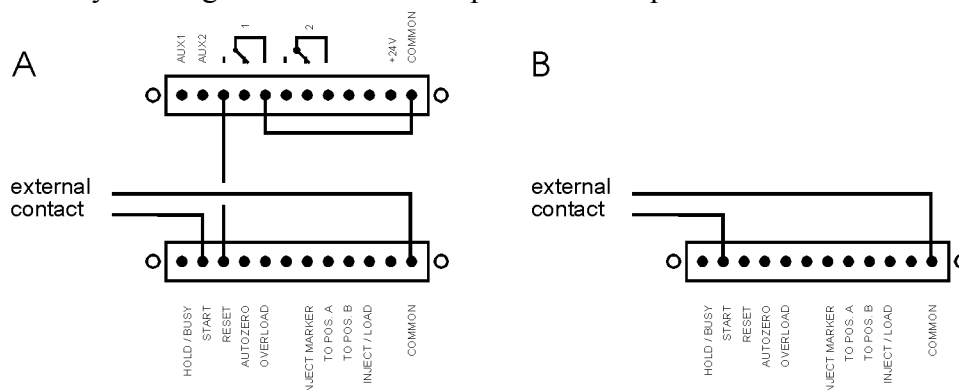

Fig. 12. Input contacts needed for external control of the EC2000 (slave mode) A: until EC2000 software version 3.00 and B: from version 3.00 and higher.
1. Connect a hardware trigger of the autosampler to 'START' on the rear panel of the EC2000 as indicated in Fig. 12. A contact closure is required between 'COMMON' and 'START' to start a TimeFile. Consult your autosampler manual for details on connecting the external contact to a relay.
7. By pressing RUN the system is ready for automated operation. The TimeFile is started by an external contact closure from the autosampler (Fig. 12). The duration of this contact closure must be at least 100 ms. Each time a run is started the 'AUTO RUN' screen appears. After the 'RESET' command (via relay1), the 'AUTO SET' screen is displayed.
There are at least two ways to activate a contact by TTL-low. This can be done by making a contact closure of the input with common (see Fig. 12, 'START' command) or by using
an external TTL contact which is made low (see Fig. 12, 'RESET' command). In the latter case it is important that the status of the external contact is known, and that the apparatus is connected to the same ground (by the mains power supply) as the EC2000.